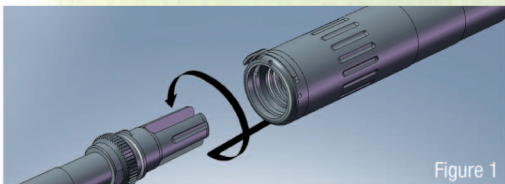

Figure 1
3) With the muzzle pointed away from you and in a safe direction, slide the M4-2000 silencer over the AAC flash hider until the external threads on the flash hider engage the internal threads of the silencer. Rotate the silencer by hand counter-clockwise 1.5-2 turns, until the shoulder at the rear of the flash hider engages a mating surface within the silencer and will no longer turn (See Figure 1). As the silencer is threading onto the flash hider, teeth on the ratchet latch will engage the serrations on the rear of the flash hider. This will prevent the silencer from unscrewing during use.